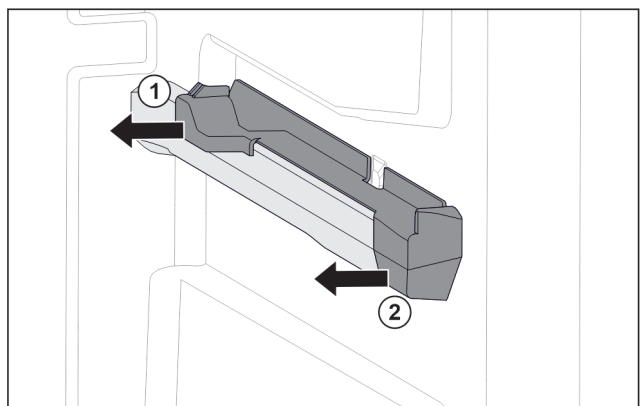

Fig. 107 Attachment on the right moulded rib
- ▶ Pull off attachment at the back sideways. Fig. 107 (1)
- ▶ Pull off attachment at the front sideways. Fig. 107 (2)